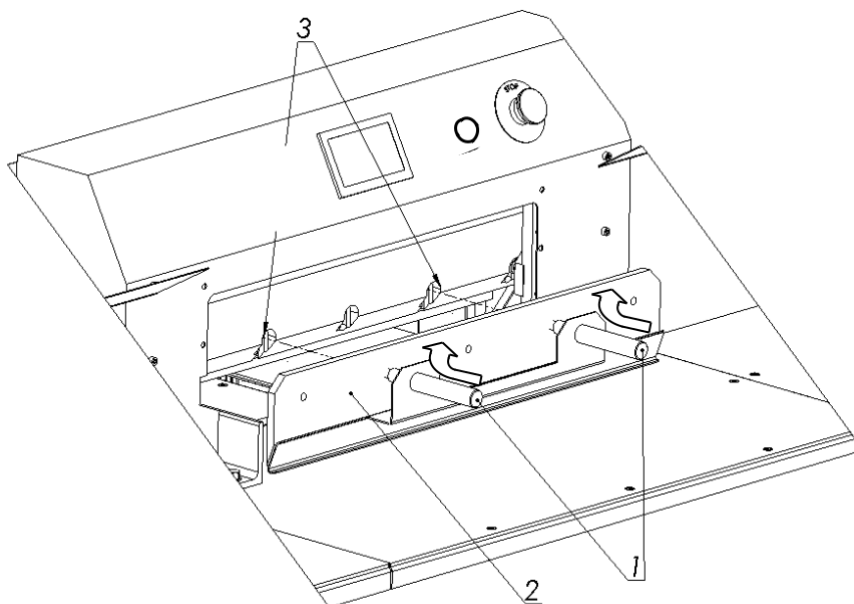

Figure 30
8.1.2.3. Holding the transport handles 1, insert the knife 2 into the cutter so that the transport handles screwed into the knife hit the cutouts in the cutter bar 3. (fig.30)